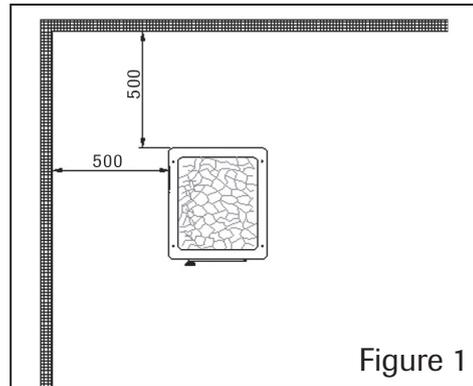

Figure 1
1. Distance to wooden components from vertical sides of sauna woodburning stove without heat shield min. 500 mm. (Figure 1)